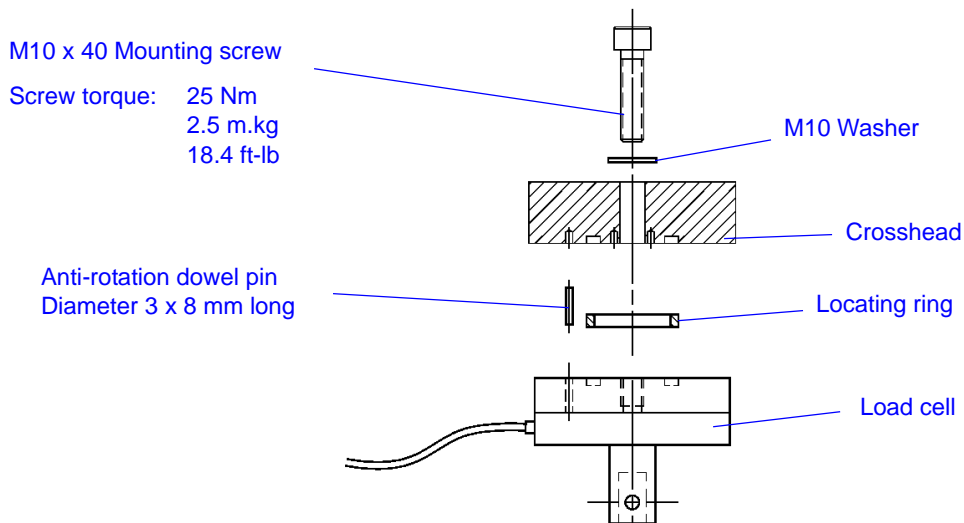

Figure 2-5. Installing 2530 Load Cells
Refer to Figure 2-5 on page 2-14 and perform the following procedure.
5. Place the locating ring into the top of the load cell that connects to the crosshead. See Figure 2-5 on page 2-14.